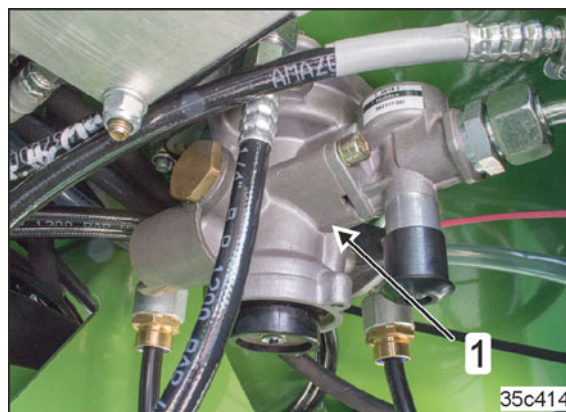

Fig. 33
- a trailer brake valve (Fig. 33/1).